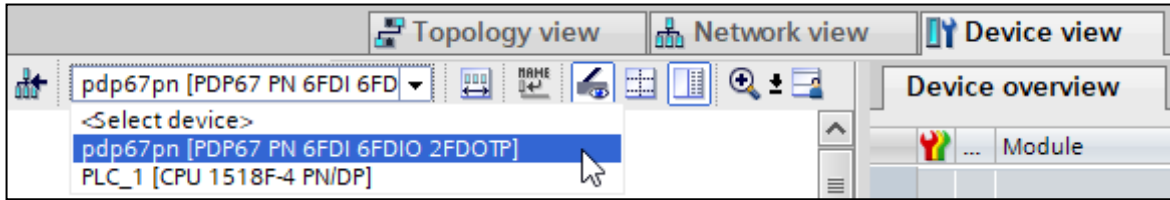

Figure 32: TIA – Adding the I/O containers to the PDP67 device (Part 1, Start)
- ▶ Switch to “Device view” (if not previously selected) and select the device **pdp67pn** [...] (see Figure 32 [28]).